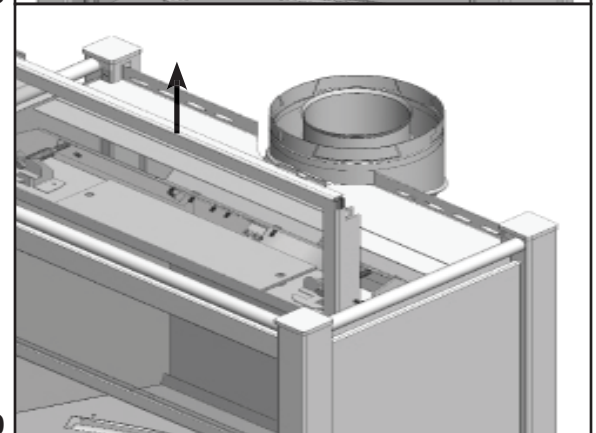

Fig.9
3. Carefully slide the door glass assembly up and out of the appliance(Fig.9). **NOTE: REMOVE THE STATIC CLING LABEL THAT IS ON THE DOOR GLASS.** Hold glass to frame when removing as it is only held in place with silicone. Set the door aside.